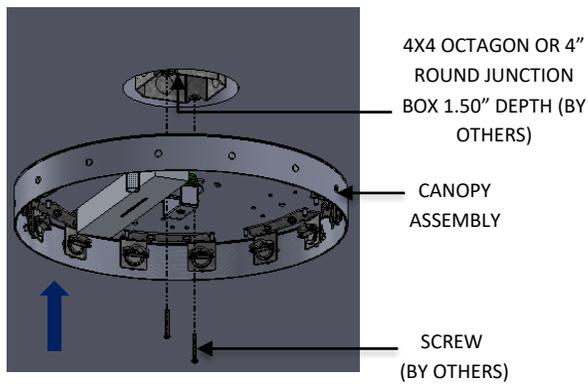
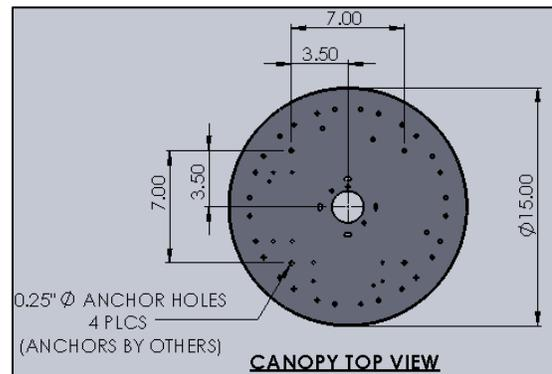

FIG. 8 – CANOPY ASSEMBLY INSTALLATION TO J-BOX (BY OTHERS)
FIG. 9 – DETAIL SHOWING ANCHOR LOCATIONS
2. Attach CANOPY to JUNCTION BOX (by other) with SCREWS provided (by others) as shown below in FIG. 8. For 7 drop fixtures, J-BOX screws are sufficient, but for 14 drop fixtures, additional ANCHORS must be used, SEE DETAIL SHOWING ANCHOR LOCATION below as shown in FIG. 9.